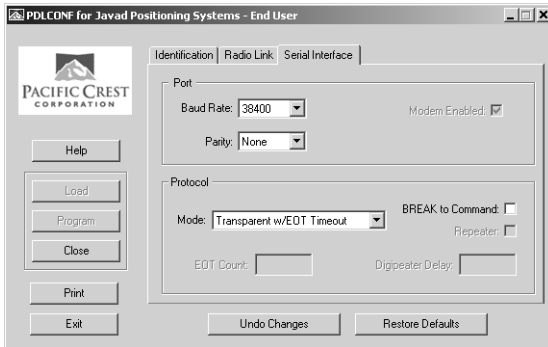

Figure 2-32. PDL Serial Interface Tab
11. Click the Serial Interface tab and set the following parameters (Figure 2-32 on page 2-37):